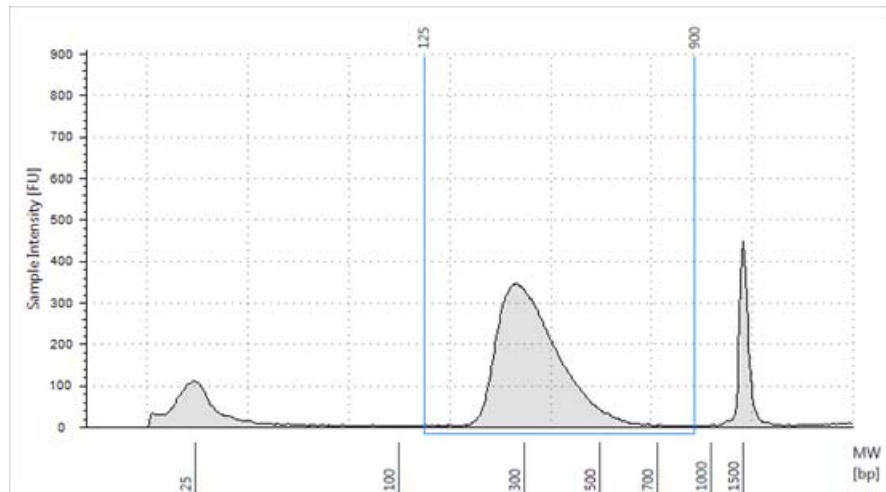

Figure 10 Post-capture analysis of amplified indexed library DNA using a High Sensitivity D1000 ScreenTape.
- 3 Verify that the electropherogram shows the peak of DNA fragment size positioned between 250 and 350 bp. A sample electropherogram is shown in Figure 10.